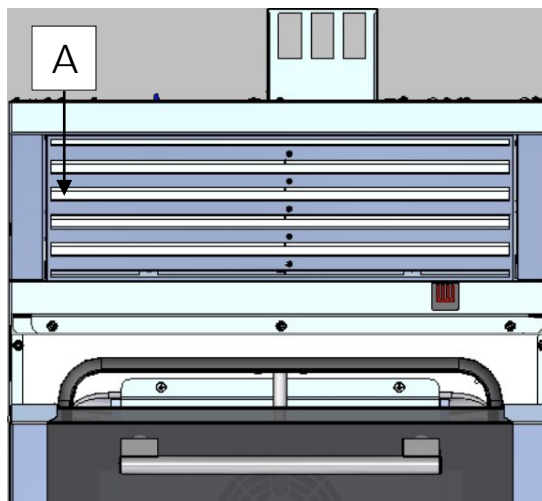

Fig. 10
*Correctly fit the previously removed mechanical filter "A" of the hood back into its housing. (Fig. 10)*